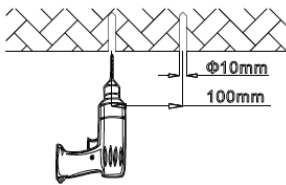

Figure 3
1. Mark with a marker pen or sharpie tool on the mounting surface and drill. (figure 3)